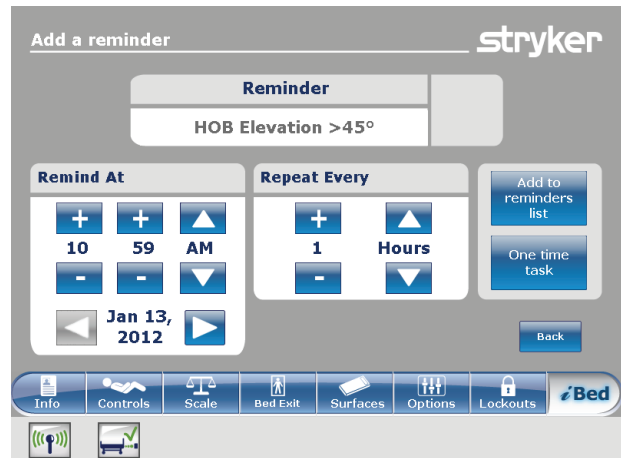

Figure 72: Setting a repeating reminder
6. Set the desired time interval for the repeated reminder (Figure 72 on page 85).
To return to the **Reminder** screen, tap **Back** (Figure 72 on page 85).